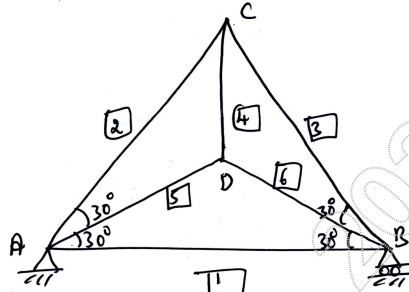

Fig.Q.7
- 7 A triangular plane truss in Fig.Q.7, has cross sectional area of  $3500\text{mm}^2$  for all the members. The member AB was found to be 5mm shorter than the correct length at the time of assembling. Find the forces in all the members, if the member AB is forced in position. Use force transformation. Take member AB as redundant. Take  $E = 210\text{GPa}$ . (20 Marks)